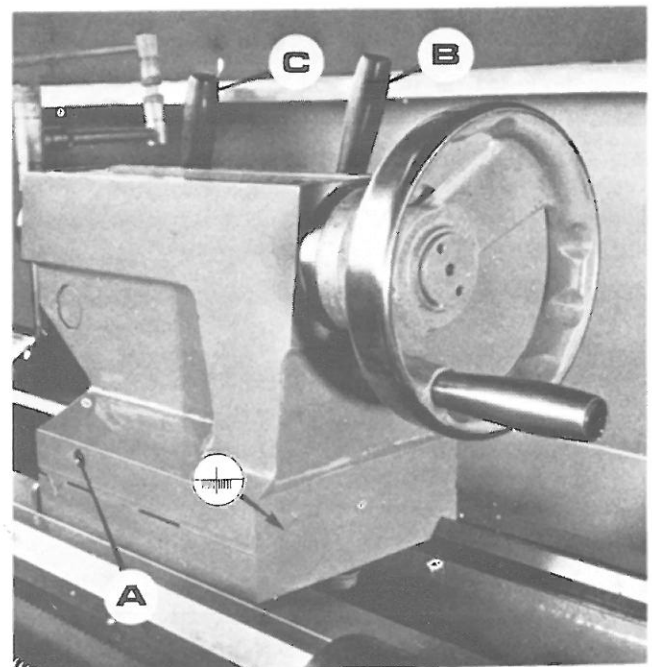

Fig. 16
Can be set over for the production of shallow tapers, or for re-alignment by adjustment of the screws (A) at each side of the base — see Fig. 16. Release the clamping lever and loosen screws beneath the tailstock which hold base to main casting, then retighten and check after adjustment of set-over.
To correct error, release the tailstock clamp lever (B) and adjust the two screws (A) shown in Fig. 16 after releasing the screws beneath the tailstock base.